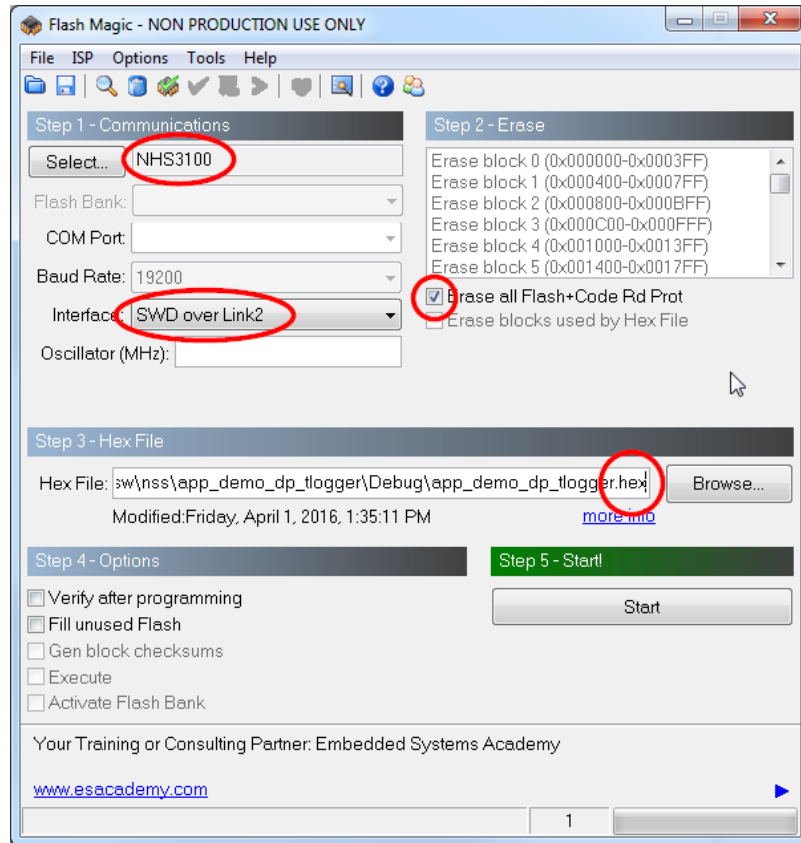

Figure 6: The recommended options within the Flash Magic tool
1. Use the settings as shown in Figure 6.